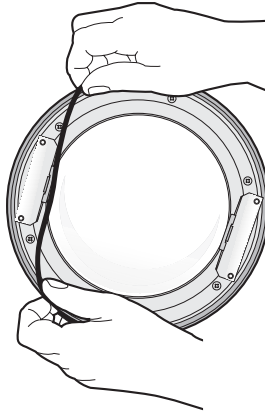

Figure 17. Installing the O-Ring
2. Lightly apply O-ring lubricant (supplied with the lower dome) to the O-ring, and then install the O-ring in the groove on the trim ring of the lower dome (refer to Figure 17).
2. Lightly apply O-ring lubricant (supplied with the lower dome) to the O-ring, and then install the O ring in the groove on the trim ring of the lower dome (refer to Figure 17 on page 22).